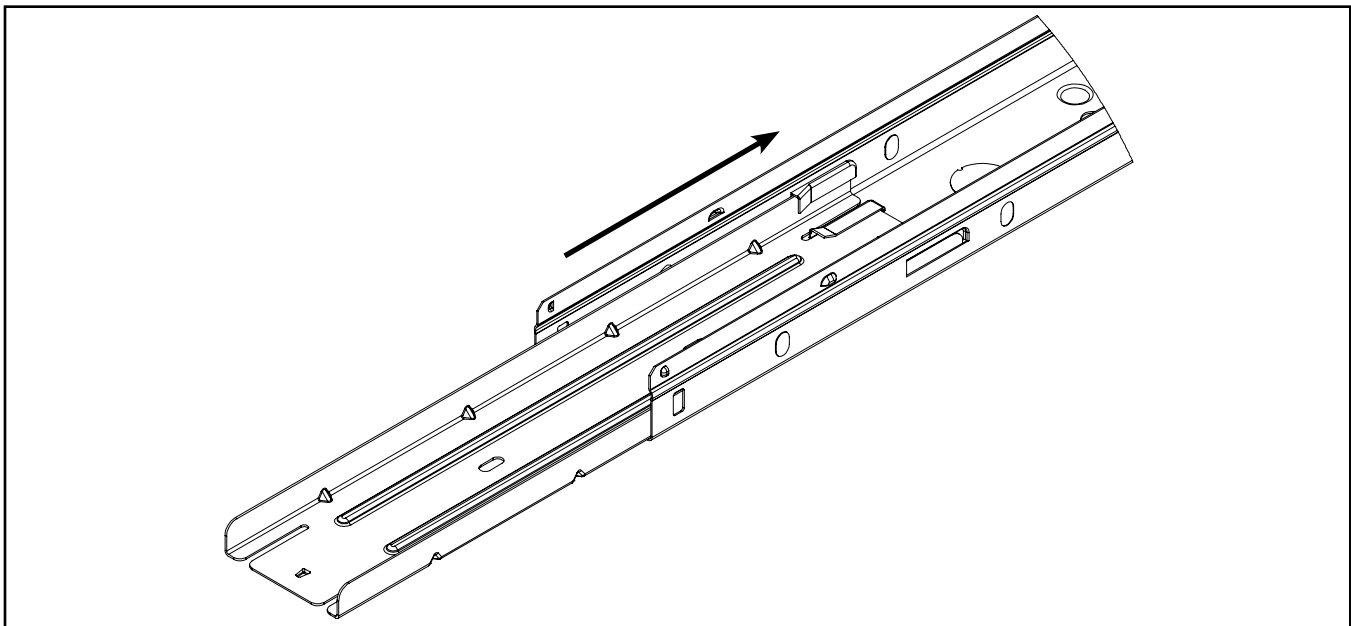

Figure 3
3. Slide the row mount bracket into place (Figure 3).